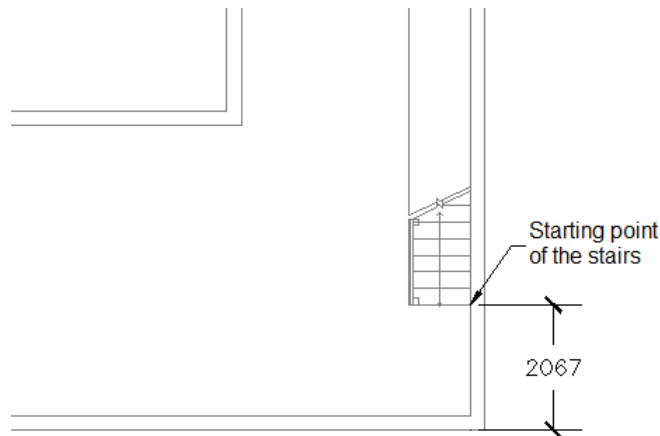

*Figure 3-50 Corner points for the slab*
- Create the stairs, refer to Figure 3-50.
Now, you need to create the slab with the specifications shown in Figure 3-50.
2. Select one of the corner points of the building displayed in Figure 3-50; you are prompted to specify the next point for the slab.
3. Select rest of the corner points as shown in Figure 3-50.